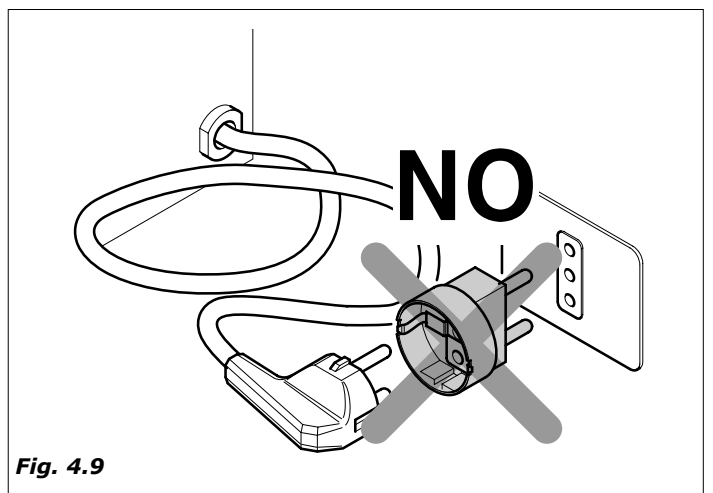

Fig. 4.9
- The sockets that are not compatible with that of the machine must be replaced. (Fig.4.9).